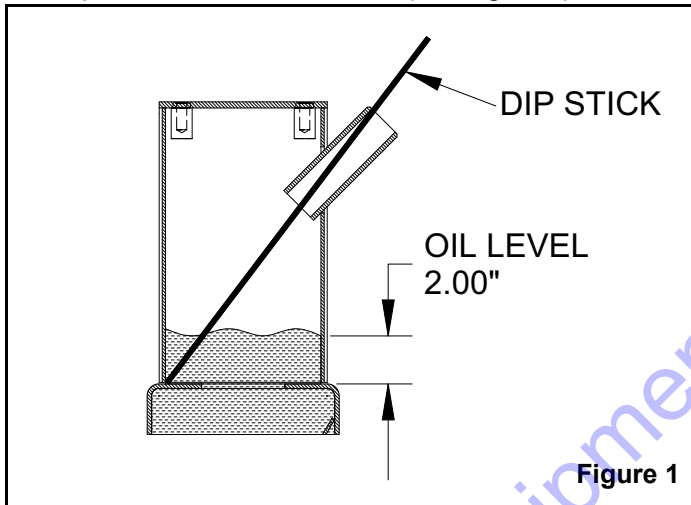

Figure 1
2. Insert a metal dip stick (18" long) into fill neck and push into far corner of tank (see Figure 1).